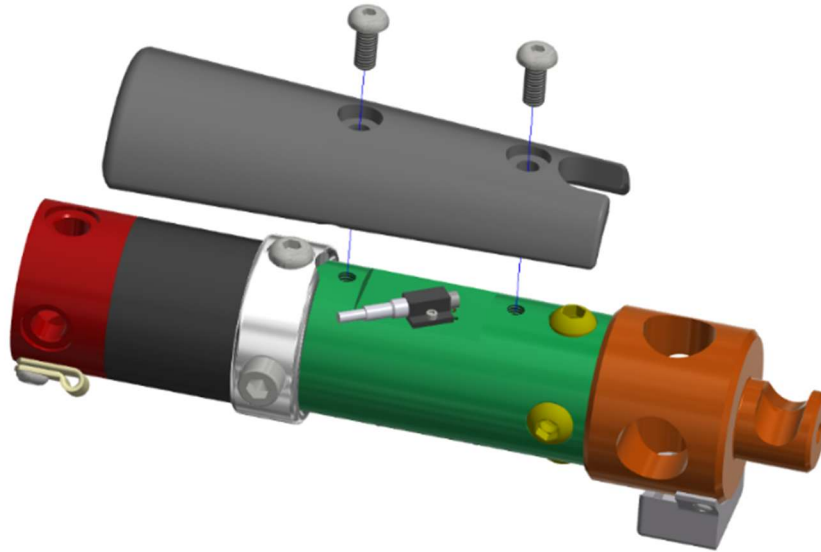

Figure 10-12. Remove the Shin Guard (474-5518-1,2)
10.2.8 Remove the Shin Guard (474-5518-1,2) by removing two M5 X 0.8 X 12 LG. BHCS (Figure 10-12).